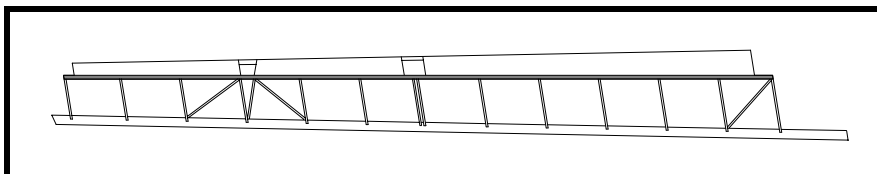

Figure 20
- ❑ Trim the lower leading edge skin for the hinge openings. See Figure 20. The leading edge strip should not be cut at this time. All you want to do is expose the spar for clamping to the 20x20 jig supports for the next skinning operation.